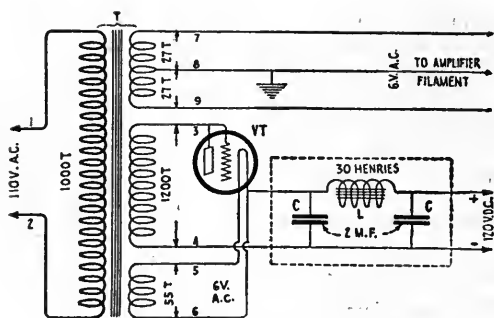

FIG. 1 A
four separate windings, each easily made. These windings are placed on two of the legs or branches of the core, as illustrated in Fig. 1. The core of the transformer is built up of strips or laminations of silicon steel .014 inches thick. The material for these strips can be bought at electrical supply houses, or it may be obtained from an old pole transformer which can often be had for the asking at the
2. Secondary—1200 turns No. 34 black enamel or D. S. C. wire, placed next to the core on the opposite leg of the transformer, as shown at S in Fig. 1. Two terminals numbered (3) and (4), Fig. 1A.